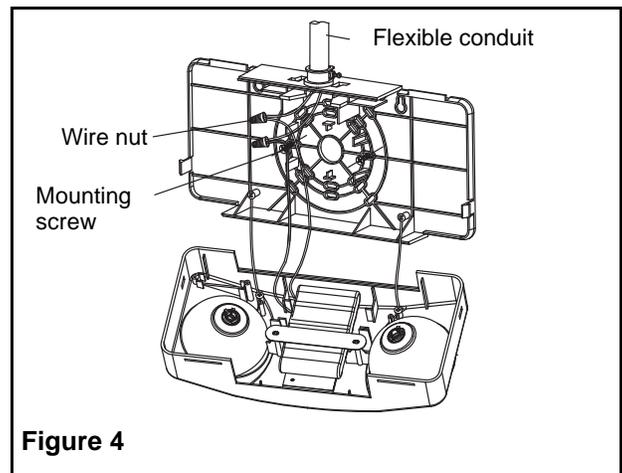

Figure 4
1. Remove the top knockout on the top flange of the fixture (see figure 4).